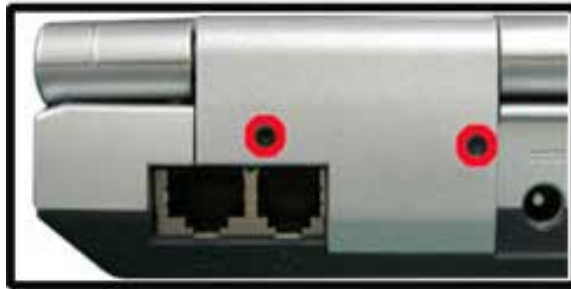

Fig. 26 Removing the right hinge cover
1. Remove the right hinge cover as shown in Fig. 26